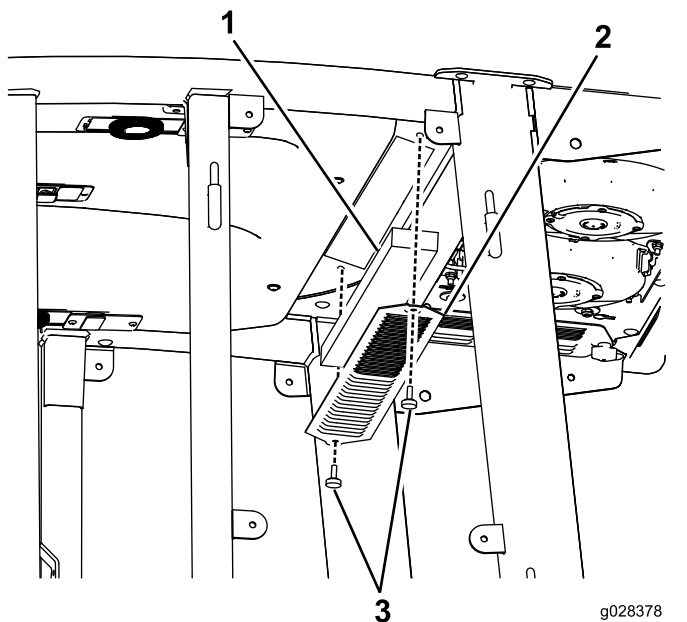
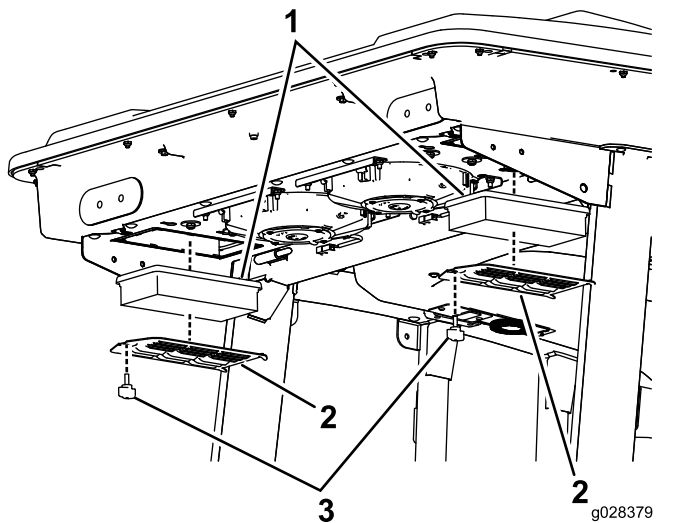

Figure 102
Figure 103
1. Remove the screws and grates from both the in-cab and rear cab air filters (Figure 102 and Figure 103).